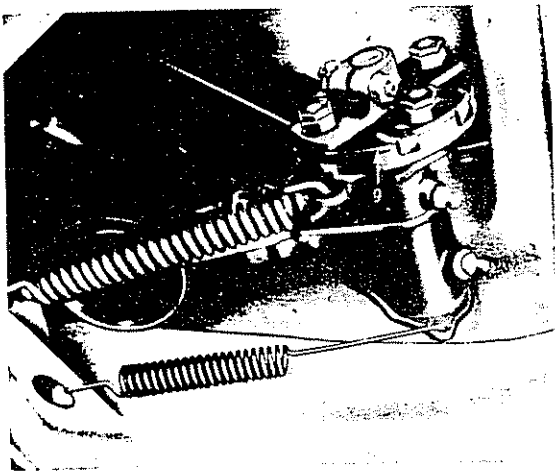

Fig. 29-5/2
version is represented by dotted lines. In the case of the 3rd version loosen the nuts (22) of the pull rod (19) for the compensating spring (18 a) and detach the compensating spring at the shackle (17) of the relay lever (6) (Fig. 29-5/1).